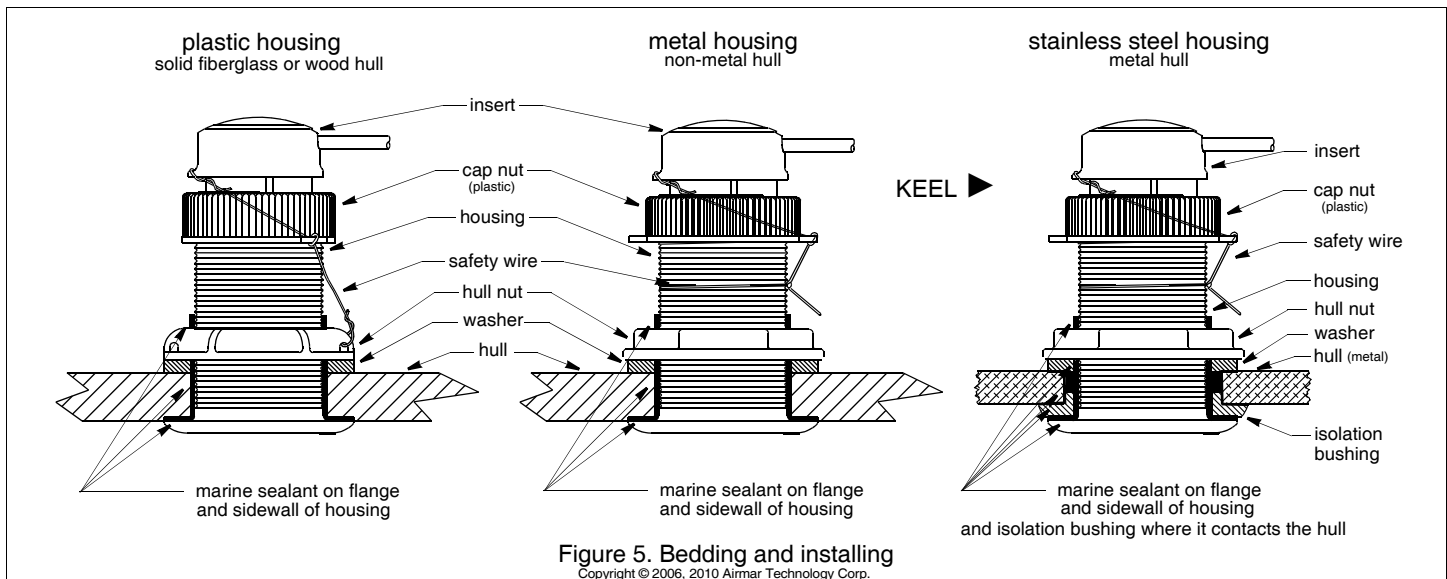

Figure 5. Bedding and installing
Apply a 2mm (1/16") thick layer of marine sealant around the flange of the housing that will contact the hull and up the sidewall of the housing (Figure 5). The sealant must extend 6mm (1/4") higher than the combined thickness of the hull, the washer, and the hull nut. This will ensure there is sealant in the threads to seal the hull and to hold the hull nut securely in place.
1. From outside the hull, push the housing into the mounting hole using a twisting motion to squeeze out excess sealant (Figure 5).
8. Attach the safety wire to prevent the insert from backing out in the unlikely event that the cap nut fails or is screwed on incorrectly (Figure 5).